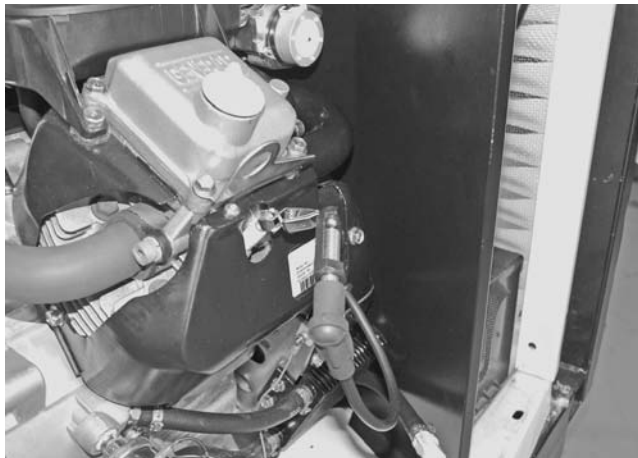

Figure 136. Checking Engine Miss
7. To determine if an engine miss is ignition related, connect the spark tester in series with the spark plug wire and spark plug (Figure 136). Then, crank and start the engine. A spark miss will be readily apparent. If spark jumps the spark tester gap regularly, but the engine miss continues, the problem is in the spark plug or in the fuel